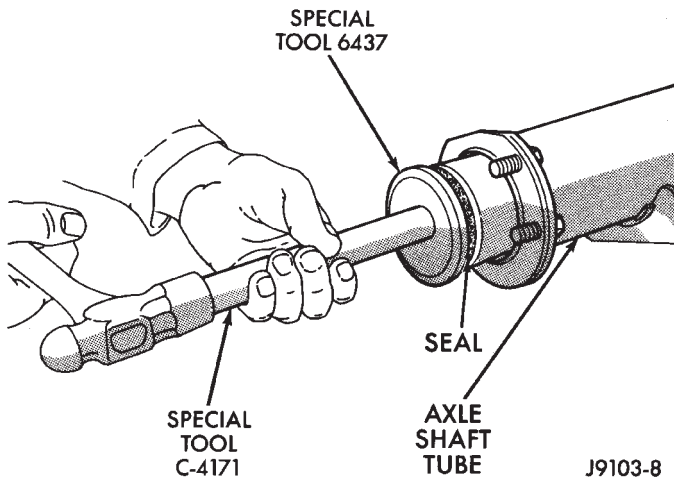

Fig. 9 Axle Shaft Seal Installation
- (1) Wipe the bore in the axle shaft tube clean.
- (2) Install axle shaft bearing with Installer 6436 and Handle C-4171. Ensure part number on the bearing must go against the Installer.
- (3) Install the new axle shaft seal (Fig. 9) with Installer 6437 and Handle C-4171.
- (4) Install the Axle Shaft. Refer to the installation procedure.